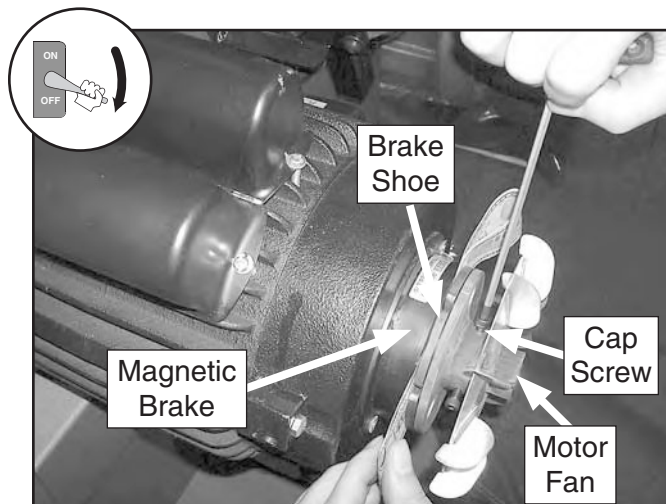

Figure 9. Adjusting distance between magnetic brake and brake shoe.
2. Remove the motor fan cover, then loosen the cap screws securing the motor fan and brake shoe (see **Figure 9**).